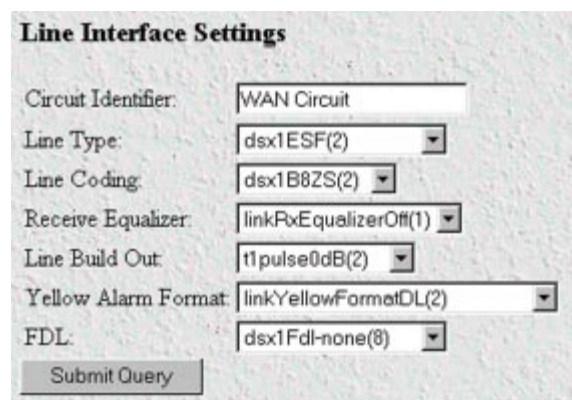

Figure 26. WAN Circuit Configuration window, Line Interface Settings section
2. Link: 1 corresponds to Line 1 on the DACS. Under Link 1, Click on Configuration then Modify. The Line Interface Settings section of the WAN Circuit Configuration window appears (see figure 26).
1. Click on the Line Type pop-up menu (see figure 26 on page 45) and choose either dsx1EX(4) or dsx1E1-CRC(5).
2. Click on the Line Coding pop-up menu (see figure 26 on page 45) and choose either dsx1AMI(5) or dsxHDB3(3). Most installations will use HDB3.
3. Click on the Line Build Out pop-up menu (see figure 26 on page 45) and select e1pulse(1).
2. Link: 1 corresponds to Line 1 on the DACS. Under Link 1, Click on Configuration then Modify. The Line Interface Settings section of the WAN Circuit Configuration window appears (see figure 26 on page 45).
1. Click on the Line Type pop-up menu (see figure 26 on page 45) and choose from the following options:
2. Click on the Line Coding pop-up menu (see figure 26 on page 45). The most common options are: dsx1B8ZS and dsx1AMI.
3. Click on the Line Build Out pop-up menu (see figure 26 on page 45) and select t1pulse0dB(1).